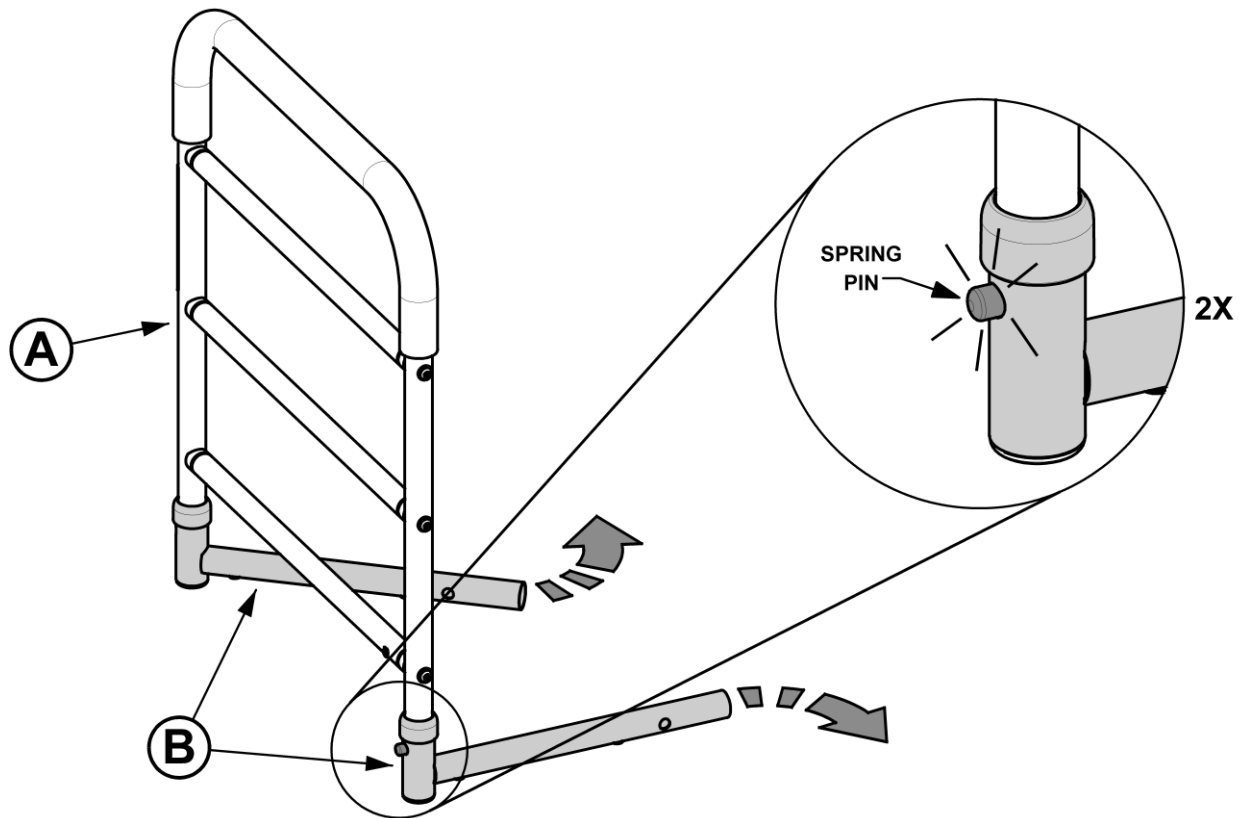

FIGURE 2
2. Rotate Base Connectors **B** outwards until SPRING PINS engage as shown in *FIGURE 2*.